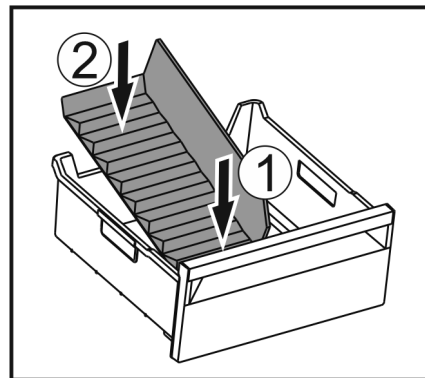

Fig. 179
- ▶ Insert the front part of the ice compartment divider. Fig. 179 (1)
- ▶ Lower the rear part of the ice compartment divider to the drawer bottom. Fig. 179 (2)